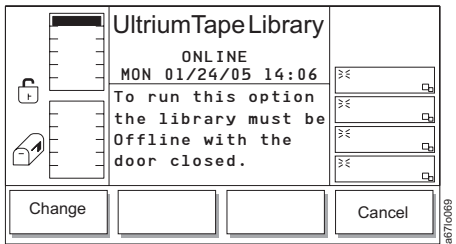

Figure 4-171. Library Submenu
2. Press the button below the **Library** softkey. The Library Submenu displays (see Figure 4-171 on page 4-96).